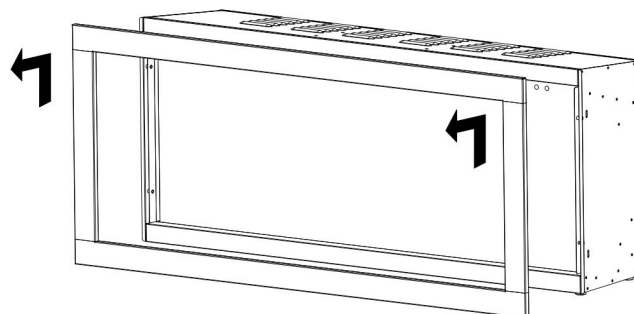

Fig. 1-2
- Carefully lift the front trim up and away from the appliance (Fig. 1-2). Place it face down on a soft, non-abrasive surface.